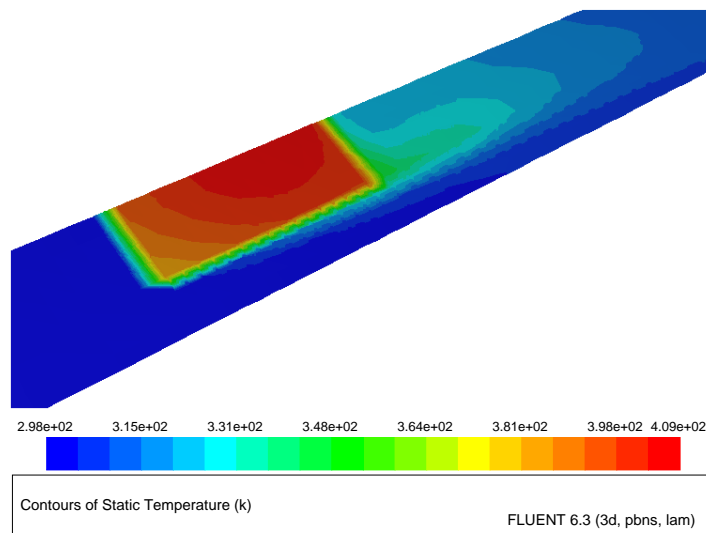

Figure 23.7: Temperature Contours on the Surface, $y = 0.25$ in.
2. Display filled contours of temperature on the plane, $y=0.25\text{in}$ (Figure 23.7).
- (d) Zoom the display using the middle mouse button to obtain the view shown in Figure 23.7.
In Figure 23.7, the high temperatures in the wake of the module are clearly visible. You can also display other quantities such as velocity magnitude or pressure using the Contours panel.